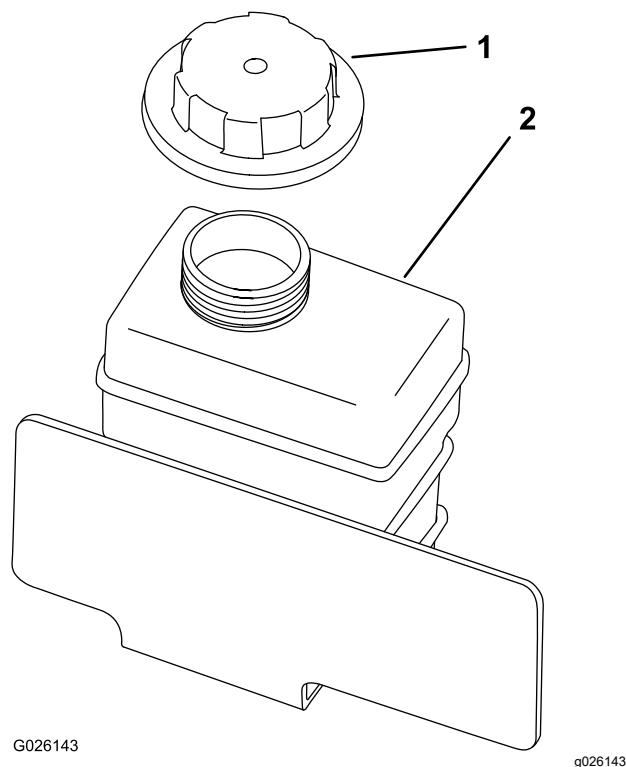

Figure 62
4. Remove the reserve-tank cap (Figure 62).